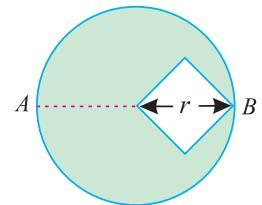

Fig. 6.22.
**Example 6.12.** A square hole is punched out of circular lamina, the diagonal of the square being the radius of the circle as shown in Fig. 6.22. Find the centre of gravity of the remainder, if  $r$  is the radius of the circle.